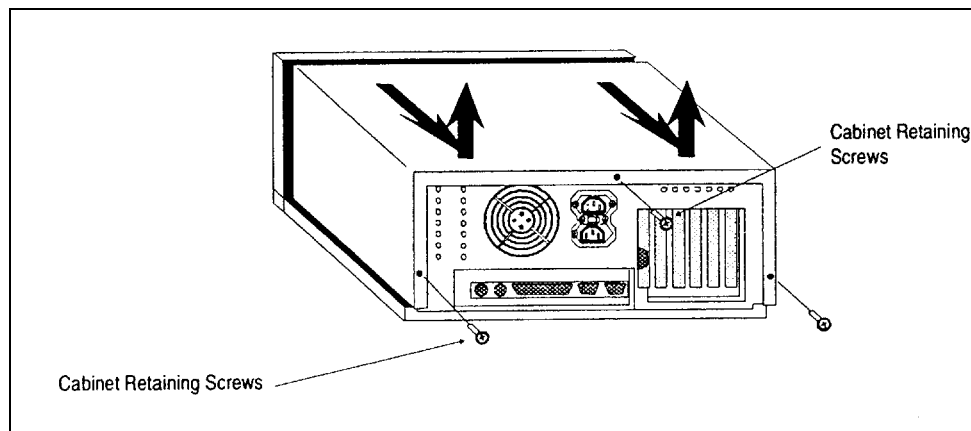

Figure 7-5. Computer Cabinet Removal
4. Remove the three cabinet retaining screws at the rear of the cabinet (Figure 7-5).